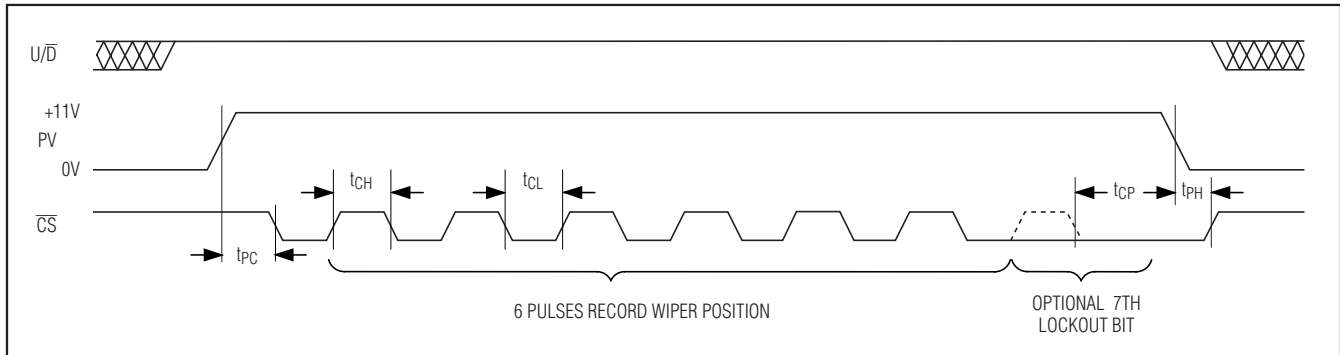

Figure 5. One-Time Program Mode, Serial-Interface Timing Diagram
| PV Rising Edge to \overline{CS} Falling Edge | t_{PC} | Figure 5 | 1 | | | ms |
| \overline{CS} Falling Edge to PV Falling Edge | t_{CP} | Figure 5 | 5 | | | ms |
| \overline{CS} Step Low Time | t_{CL} | Figure 5 | 5 | | | ms |
| \overline{CS} Step High Time | t_{CH} | Figure 5 | 5 | | | ms |
| PV Falling Edge to \overline{CS} Rising Edge | t_{PH} | Figure 5 | 1 | | | ms |
Change the wiper's power-up position using the PV one-time programming sequence after power-up (see Figure 5). After setting the wiper to the desired power-up position, perform the following six-step sequence:
- 4b) Pulse \overline{CS} high for seven cycles, consisting of \overline{CS} starting low and going high for at least t_{CH} and then low for at least t_{CL} , to change the wiper power-up position and lock the wiper in that same position. The seventh \overline{CS} pulse is labeled the optional lock-out bit in Figure 5.